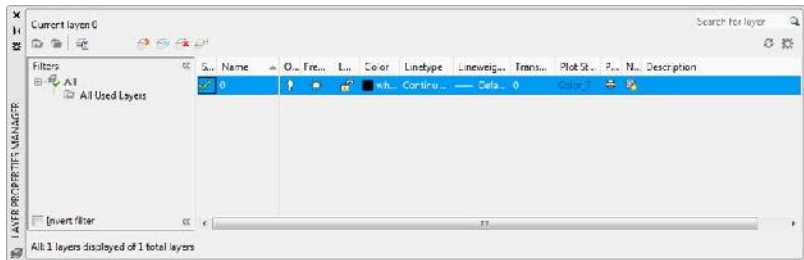

FIGURE 6.6: The Layer Properties Manager
3. Click the Layer Properties button on the left end of the Layers panel to open the Layer Properties Manager (see Figure 6.6).